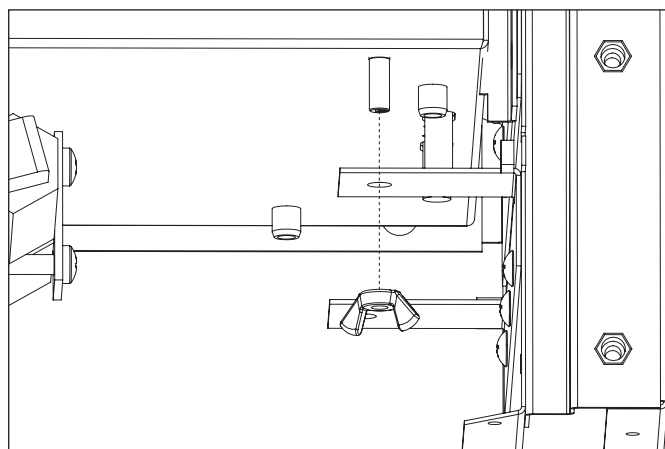

FIG 24 Securing the burner bed
5. Remove the 2 M5 wing nuts from under the burner. Lift the burner assembly upwards and carefully remove from the burner chamber. Refer to **FIG 24**.